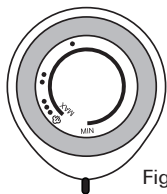

Fig.13
2. Turn Dial Knob to "MIN" (Fig.13)